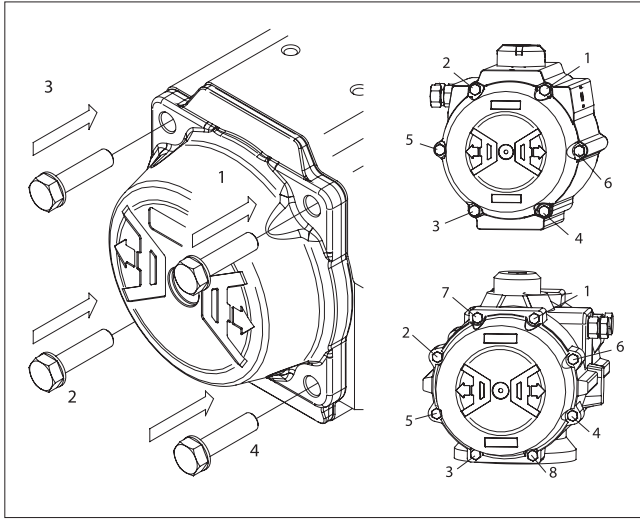

Figure 16.
- B. Apply grease to the end-cap o-ring seals, using the recommended o-ring-area grease listed in (Table 2). Fit the end-cap o-ring seals (14) into the groove in each end cap (30, 31).
- C. Fit the end caps (30) onto the body (50), verifying that the o-ring seals (14) remain in the grooves.
- D. Insert all end-cap screws (13) and hand tighten. Complete tightening by following the sequence indicated in (Figure 16), using torques listed in Table 4.